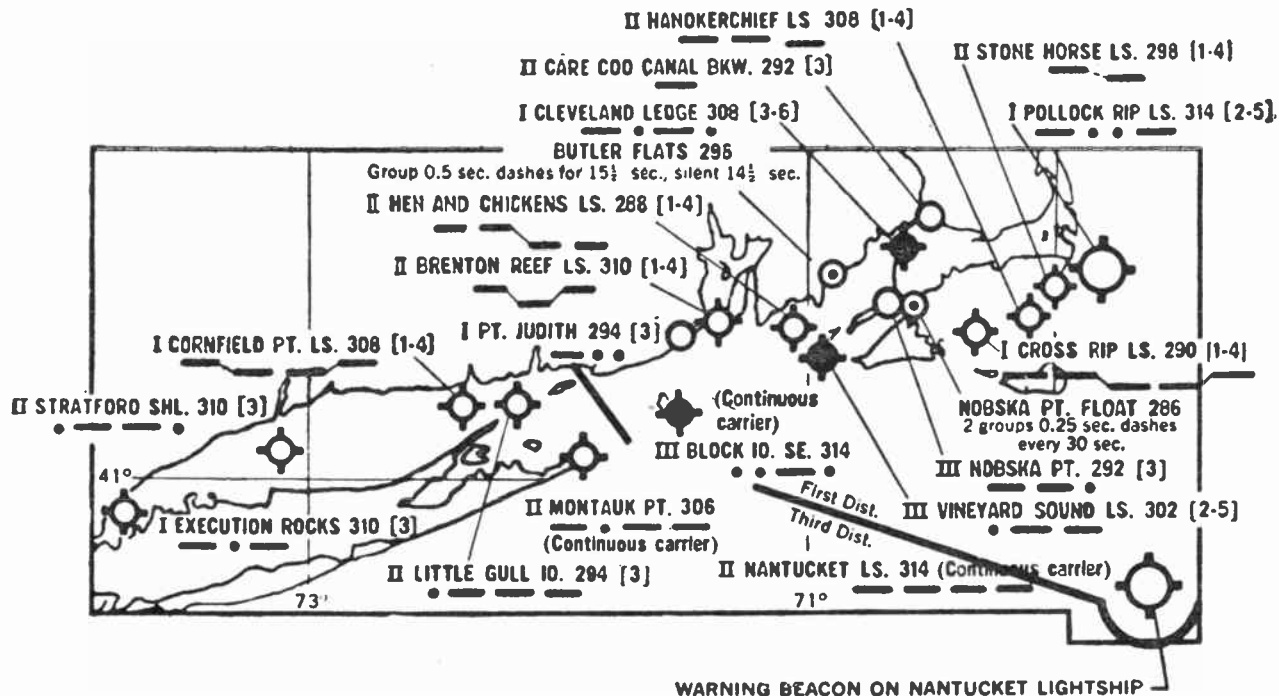

Fig. 12.
Figure 12 represents a section of Nantucket, Vineyard, and Long Island Sounds and shows 15 beacons, their frequency, time of transmission and identifying signal. Thus, Nantucket Lightship transmits the character — — — — for one minute as the second (2) station of the group on 314 kc. The other members of this group are Pollock Rip Lightship and Block Island SE. Clear weather transmission periods of this group are (2-5) or the second and fifth 10-minute periods after the hour, for example 10:10 to 10:20 and 10:40 to 10:50.